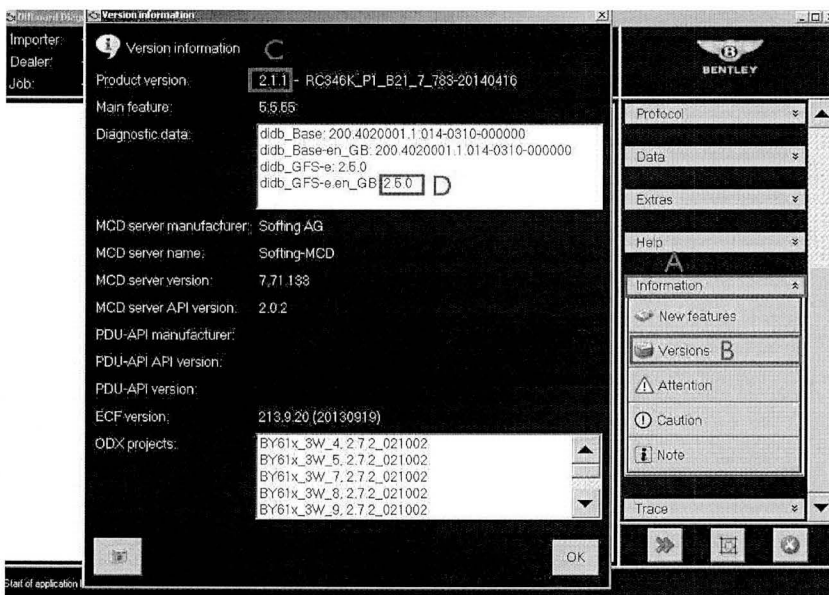

Figure 2
- Referring to Figure 2, from the Offboard Diagnostic Information System Service home screen select Information (Point A)